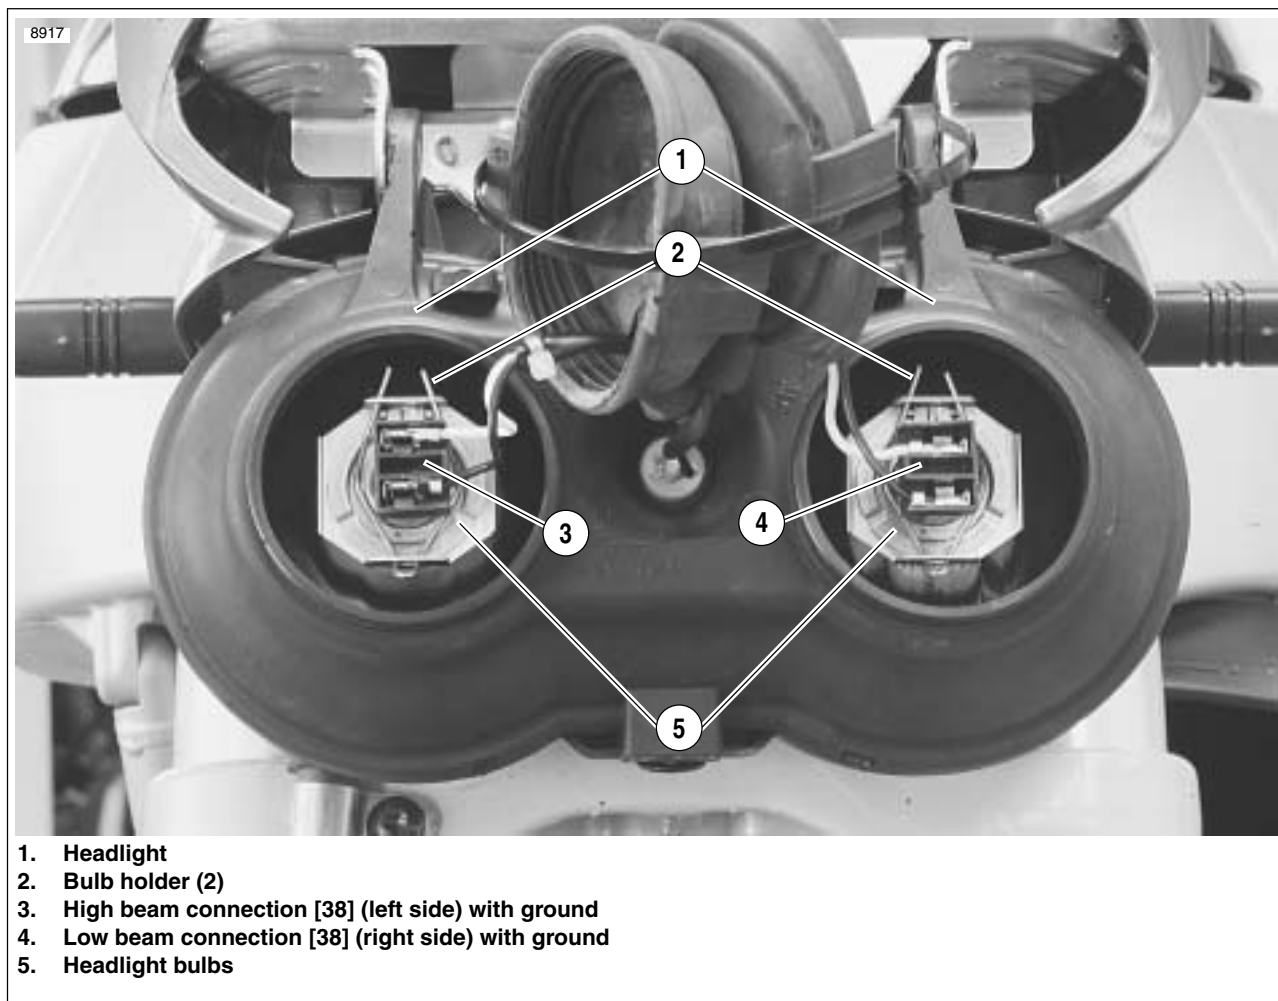

Figure 7-46. Headlight Assembly/Rear View
3. See Figure 7-46. Remove rubber boot from headlight housing.
4. Unplug headlight bulb connectors (3) and/or (4).
5. Release bulb holder (2) from headlight housing clips.
1. See Figure 7-46. Align tabs on bulb (5) with tabs on headlight (1). Insert bulb.
2. Close the bulb holder (2).